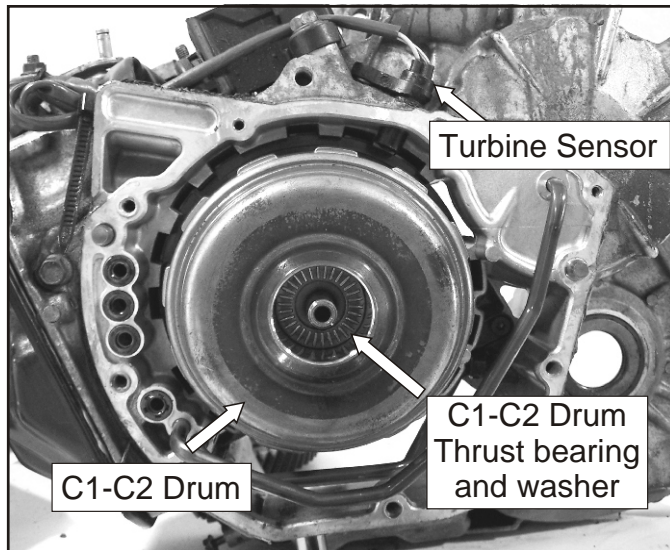
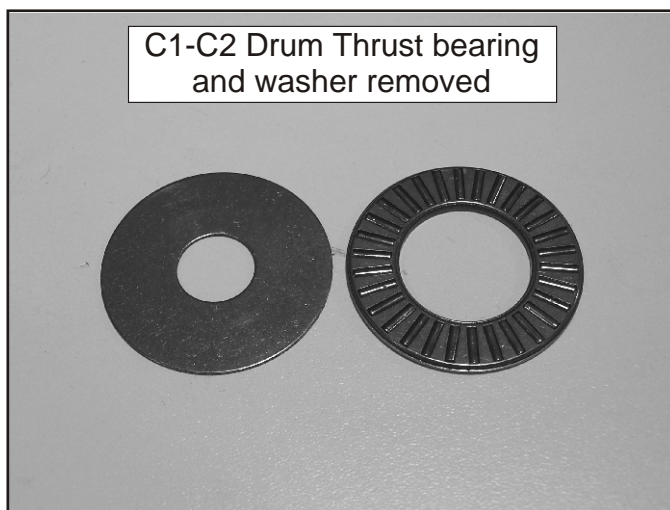

Figure 71
Figure 72
21. Remove the 27 torx headed turbine sensor bolt and sensor. *Note: the bolt length is 13mm.* Remove the C1-C2 drum thrust bearing and washer. Remove the C1-C2 drum as shown in Figure 71. Refer to Figure 72 to see a closeup of the C1-C2 washer and bearing.